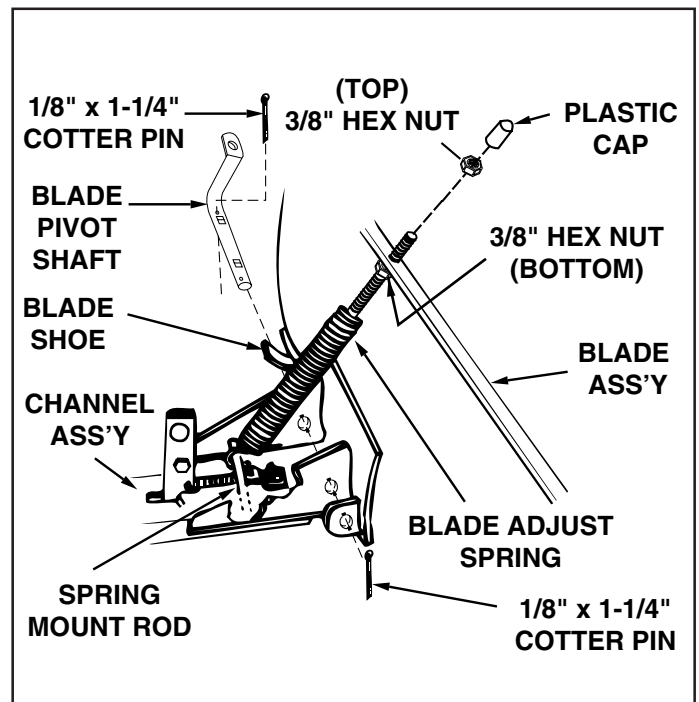

FIGURE 15 (Right Hand Side View)
- Attach blade assembly to channel assembly by inserting the blade pivot shaft from the left side (bend facing up) through the notched holes in the blade and channel assemblies. Secure with two 1/8" x 1-1/4" cotter pins through two holes in pivot shaft. Spread ends of pins. See figure 15.
- Hook blade adjust spring over spring mount rod as shown in figure 15. Remove plastic cap, and one 3/8" hex nut from bolt assembled in spring. Adjust the remaining 3/8" hex nut down approximately 1" onto the bolt threads. Assemble bolt up through the hole in top edge of blade and hold in place with the 3/8" hex nut removed earlier. Tighten 3/8" hex nut on top edge of blade down against the bottom 3/8" hex nut. Replace plastic cap over end of bolt threads. See figure 15.
- The tension of the blade adjust spring is adjustable to permit blade to tilt forward to by-pass solid obstructions. To change spring tension (standing in front of blade assembly), adjust the nuts at upper end of the spring bolt, turning counter clockwise to relieve tension and clockwise to increase tension. See figure 15 on page 8.